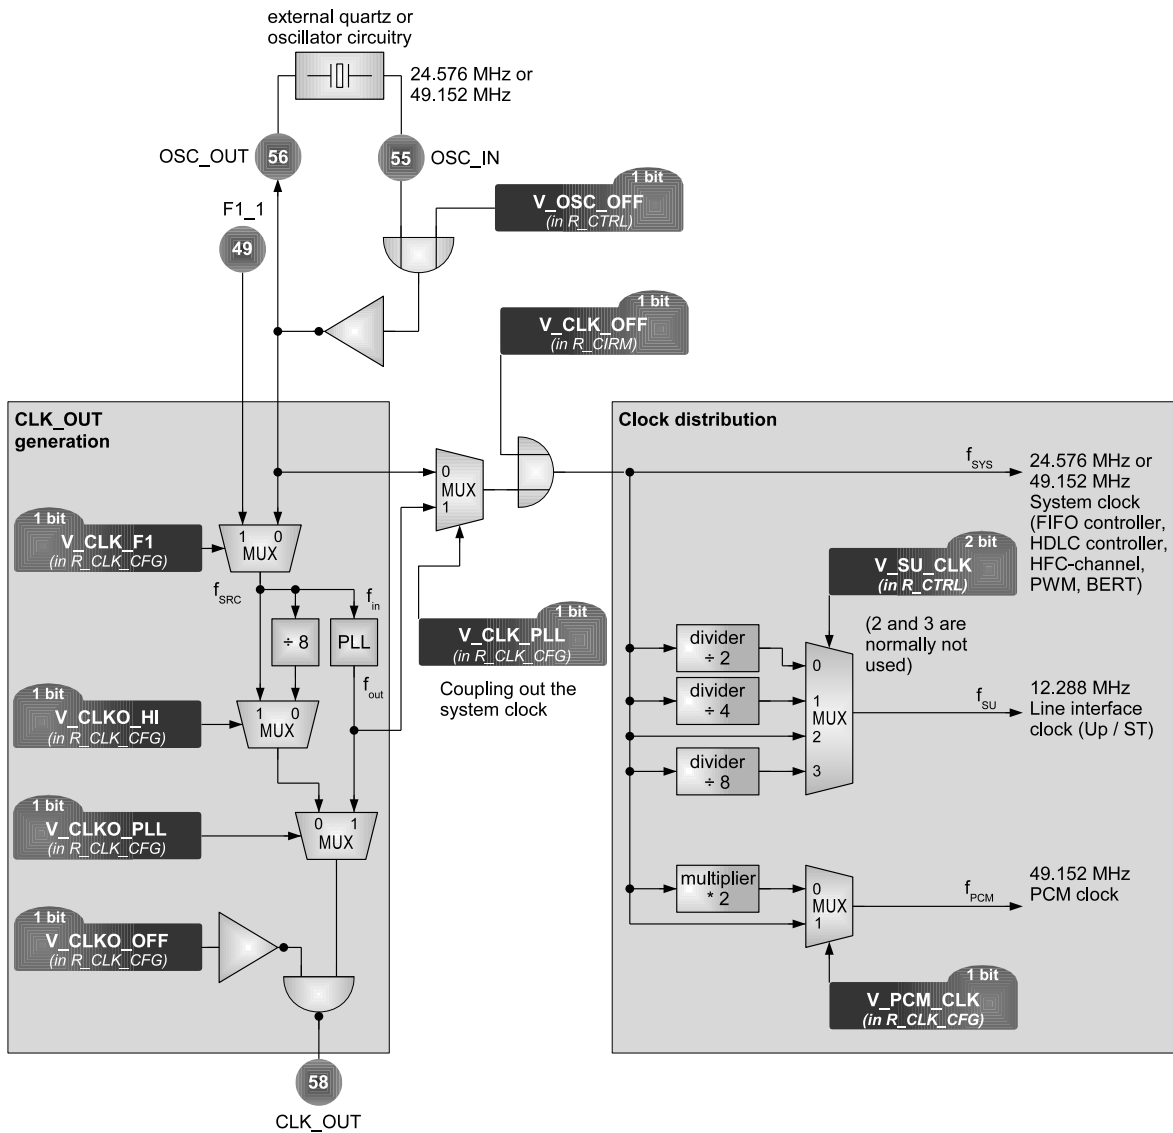

Figure 9.1: CLK\_OUT generation and clock distribution
XHFC-2S4U/4SU supply a programmable clock output which can be used for source of clocking for any external device. Even a CPU or MCU supervising the whole system in which XHFC-2S4U/4SU is used can be clocked. The left part of Figure 9.1 shows the block diagram of CLK\_OUT generation.
All setup bits shown in Figure 9.1 are implemented in a way that there are no glitches on the clocks when register bits change.
XHFC-2S4U/4SU use several internal clock frequencies. They are generated as shown in the right part of Figure 9.1.
Depending on the external clock source connected to pin OSC\_IN, the internal PLL shown in Figure 9.1 is either required for internal clock generation or it is available for other application needs.
- When any other clock frequency is feed in pin OSC\_IN, the PLL is required for  $f_{\text{SYS}}$  generation.  $f_{\text{SU}}$  and  $f_{\text{PCM}}$  are derived from  $f_{\text{SYS}}$  as shown in Figure 9.1.